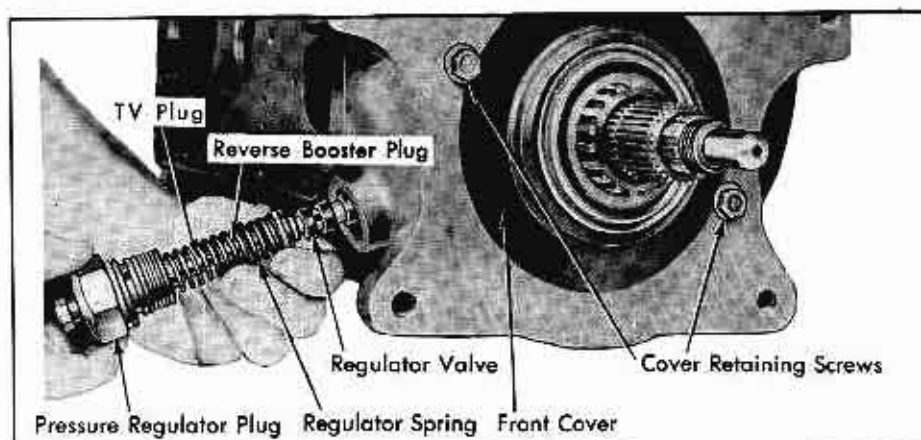

Fig. 14-24 Removing Pressure Regulator Assembly
3. Remove plug, reverse booster plug, T.V. pressure plug, springs and valve as an assembly from side of transmission case. Fig. 14-24.